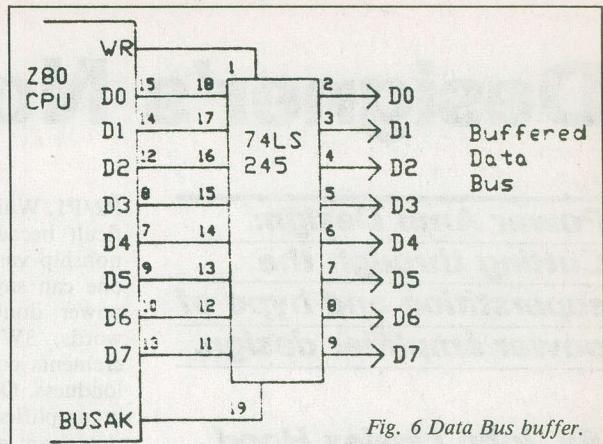

Fig. 6 Data Bus buffer.
**Fig. 6** shows how to connect a buffer to the data bus using a 74LS245 bidirectional buffer. The WR signal is connected to pin 1 on the 74LS245, controlling the direction of data flowing from the buffer. Pin 19 is connected to the BUSAK signal